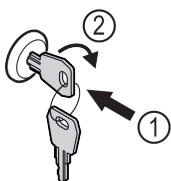

Fig. 87 Example illustration
- ▶ Insert key Fig. 87 (1).
- ▶ Turn key clockwise by 90° Fig. 87 (2).